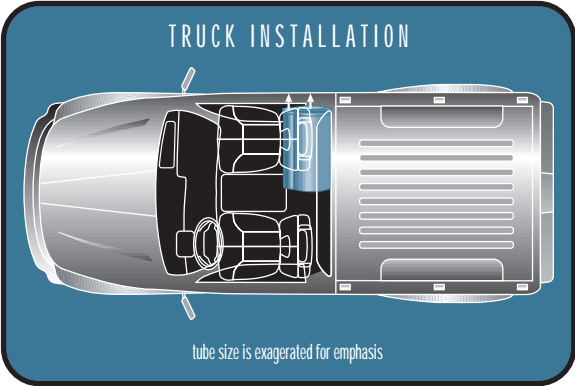

Figure 1
- 1) The woofer (grill end) should be facing into a corner. (See figures 1, 2 and 3)